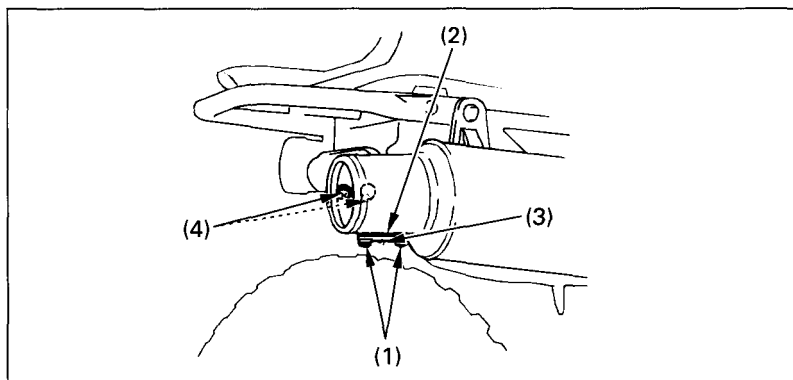

Fig. 4-34
2. Remove the bolts (1) (Fig. 4-34), gasket (2) and spark arrester lid (3).